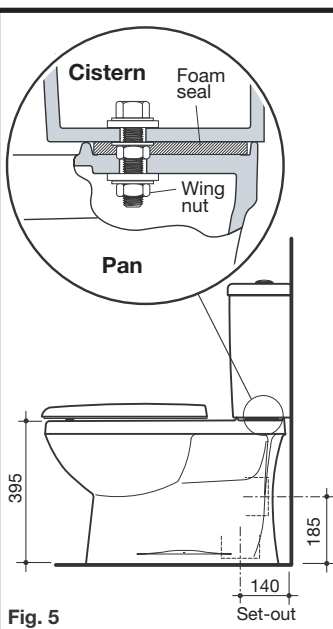

Fig. 5
- 1- Securely attach the self-adhesive foam seal around the outlet on the base of cistern, as detailed in Fig. 5.